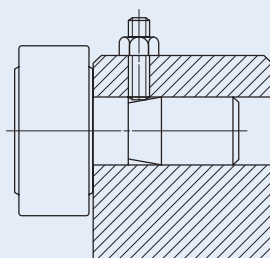

Fig. 5 Mounting example of Easy Mounting Type Cam Follower
- ⑥ For mounting Easy Mounting Type Cam Followers, it is recommended to fix the fixing screw from the upper side to the stepped portion of the stud. (See Fig. 5.)